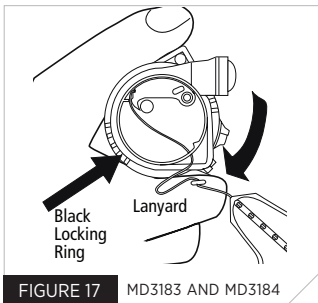
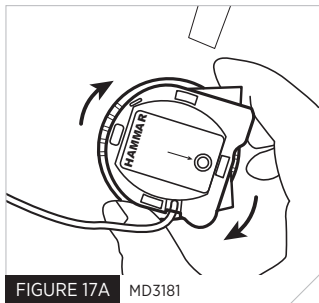

FIGURE 17 MD3183 AND MD3184
FIGURE 17A MD3181
9. While pressing **FIRMLY** onto the inflator body, turn the **BLACK** locking ring clockwise into the locked position (Fig. 17 for models MD3183 and MD3184, and Fig. 17a for model MD3181). Pull on the cap to make sure it has locked onto the inflator body.